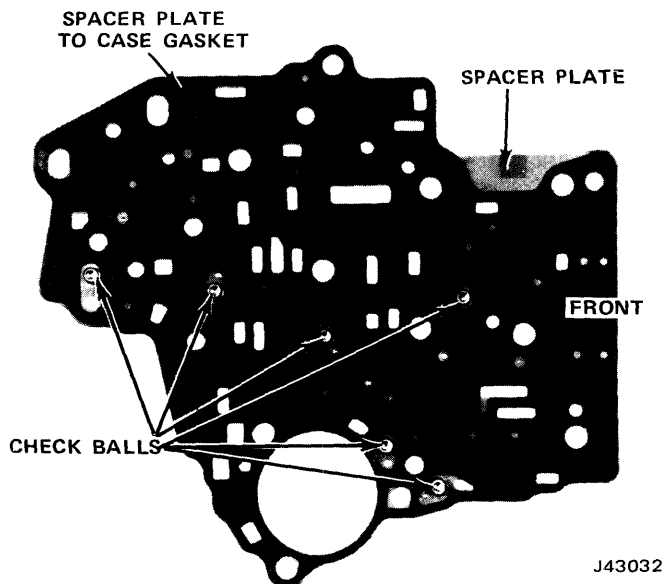

Fig. 7-136 Spacer Plate Check Ball Location
(1) Install guide pins (fabricated previously) in valve body mounting holes in transmission case.
(2) Install six check balls into ball seat pockets in transmission case (fig. 7-136).